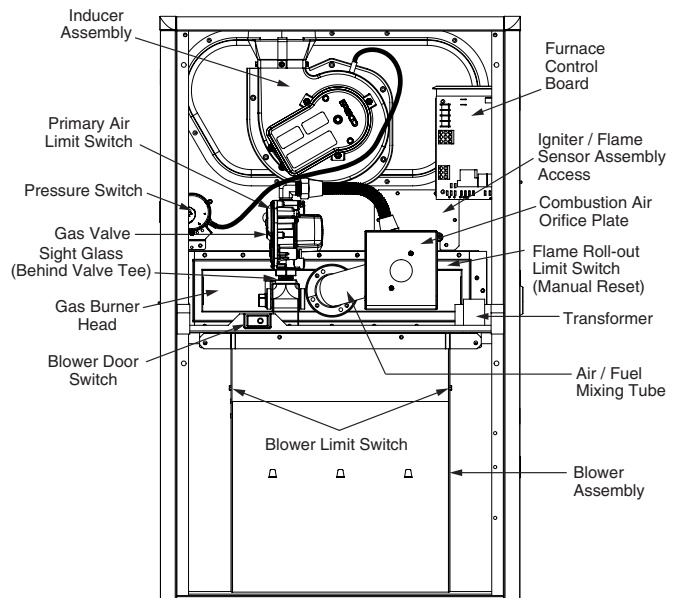

Figure 1. Furnace Components
The furnace components shown in Figure 1 will help to identify and locate various parts of the furnace. The component you need to familiarize yourself with is the gas valve. You will use this to turn the furnace on and off. **There are no user serviceable parts. All repairs must be performed by a licensed HVAC technician.**
7. Set the gas valve switch or knob to the OFF position. See Figure 1 for gas valve switch or knob location.
NOTE: Your furnace may be equipped with one of three types of gas valves. Remove the door panel from the front of the furnace and determine which valve type matches your installation in Figure 1. Move the switch to the OFF Position.